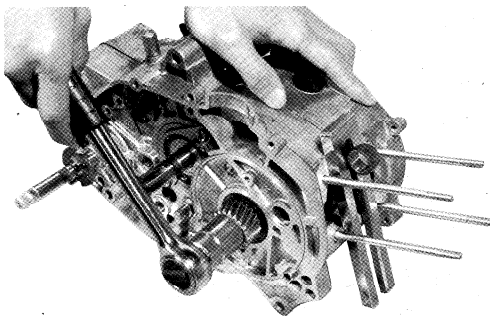

Fig. 5-4-23
22. After flattening the primary pinion lock washer with a chisel and hammer, place a piston holder (special tool 09910-20115) between the con. Rod and the crankcase, and loosen the primary pinion lock nut with a 21 mm wrench. The primary pinion can be removed by hand. (Fig. 5-4-23)